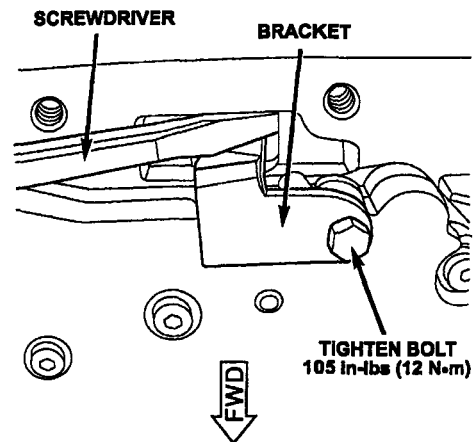

Figure 10
8. Using a screwdriver, gently pry between the transmission housing and the bracket until seated. This will insure the proper positioning of the anchor shaft with or without cup plug (Figure 10).